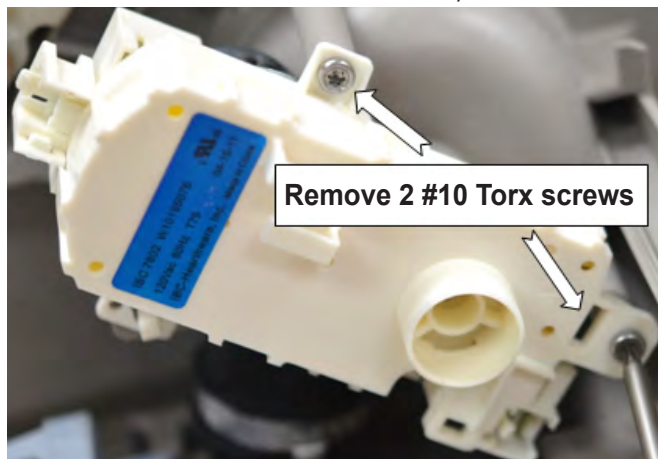

Figure 2 - Diverter assembly w/o spray arm motor
3. Remove 2 Torx screws, see figure 2. (Diverter assembly shown without lower wash arm motor.)